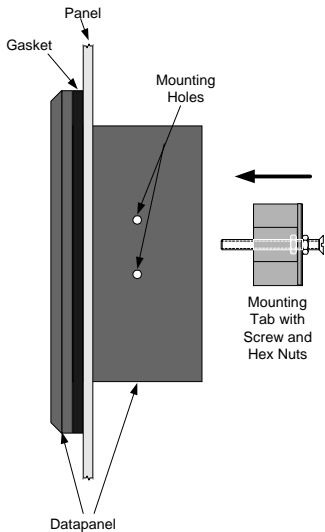

Figure 2-2. Datapanel Mounting, Side View
4. Insert the Datapanel from the front of the panel into the cutout, as shown in Figure 2-2.